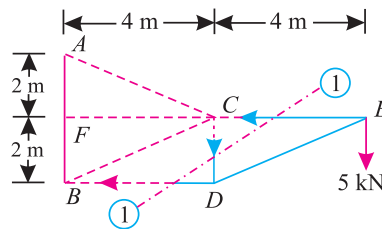

Fig. 13.34.
**Solution.** The example may be solved either by the method of joints or method of sections. But we shall solve it by the method of sections, as one section line can cut the members CE, CD and BD in which the forces are required to be found out. Now let us pass section (1-1) cutting truss into two parts as shown in Fig. 13.34.
Now consider equilibrium of the right parts of the truss. Let the directions of the force  $P_{CE}$ ,  $P_{CD}$  and  $P_{BD}$  be assumed as shown in Fig. 13.34. Taking moments about the joint D and equating the same,